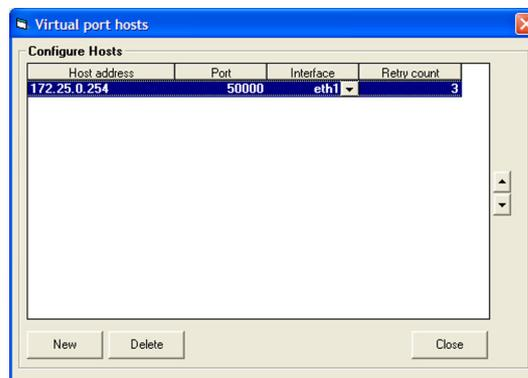

Figure 151 Configuring Remote Hosts for Virtual COM Ports
- c. Enable the active connection by selecting the **Active Connection, With any character** option. When this option is selected for the virtual COM port with default parameters, a dialog for configuring remote hosts is displayed automatically; see Figure 151 on page 312.